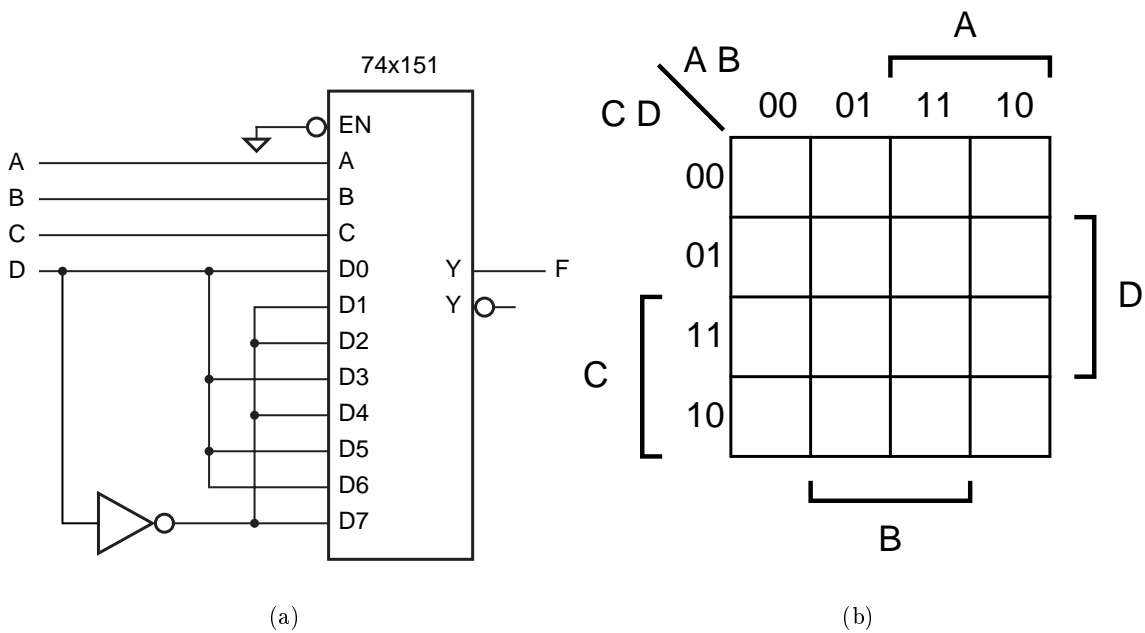

Figure 3: (a) A multiplex that implements a combinatorial function; (b) Karnaugh Map
The 74x151 shown in Figure 3(a) is an 8-to-1 multiplex that is being used to implement a combinatorial function $F(A, B, C, D)$.
- a. (10 points) Fill the Karnaugh map of Figure 3(b) with the logic function $F(A, B, C, D)$ that is realized by the circuit of Figure 3(a).